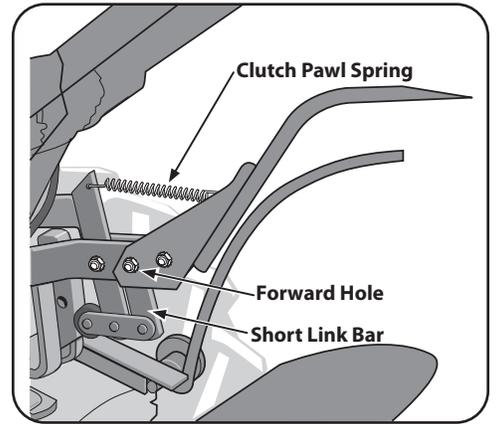

Figure 3-10
6. Pull the Wheels/Tines/PTO Lever back to align the forward most holes in the yoke plate with the holes in the lever plates. Also align the bushing that is inside the short link bar. Install the screw, star washer and nut, then tighten securely. Securely tighten all other hardware. Ensure that the spring is properly seated at both ends. Completed assembly should appear as illustrated in Figure 3-10.